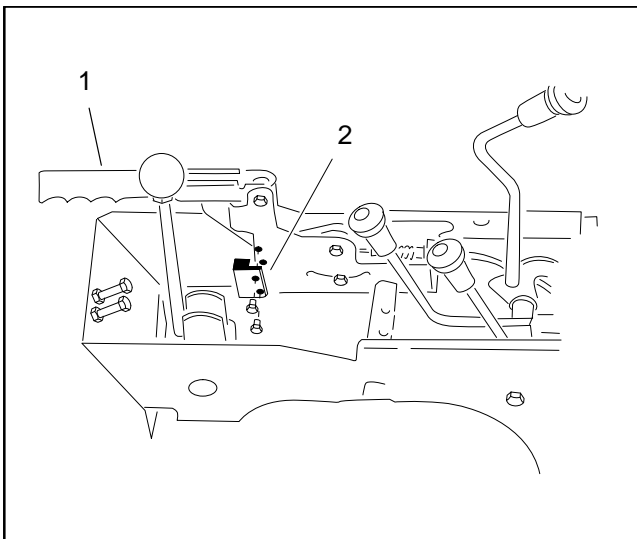

Figure 47
1. Park vehicle on a level surface, shut engine off, remove key from ignition switch and chock wheels. Locate the interlock switch (Fig. 47).